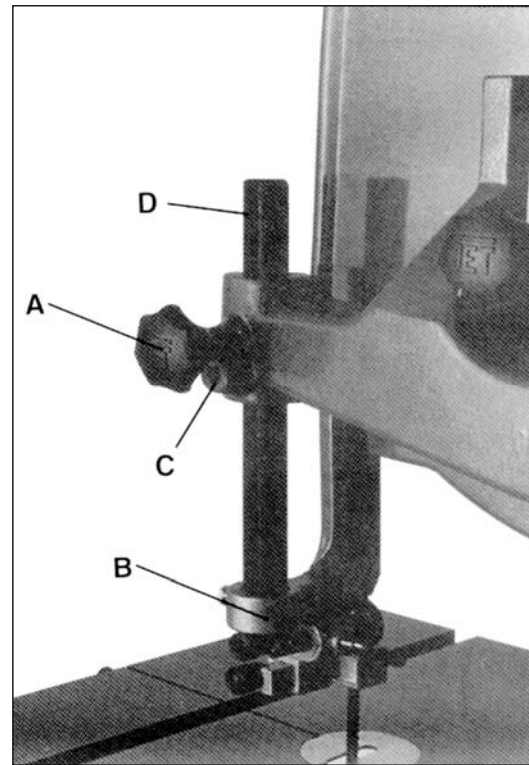

Figure 2
10. Loosen the two hex cap screws holding the metal blade guard assembly to the upper blade guide bracket (B, Figure 2) and remove the blade guard.
11. Remove the upper blade guide bracket (B, Figure 2) from the guide post (D, Figure 2).
12. Loosen the guide post lock knob (A, Figure 2). Loosen, but do not remove set screw (C, Figure 2) to release tension on the guide post.
13. Tighten set screw (C, Figure 2).
15. Tighten set screw (C, Fig. 2).